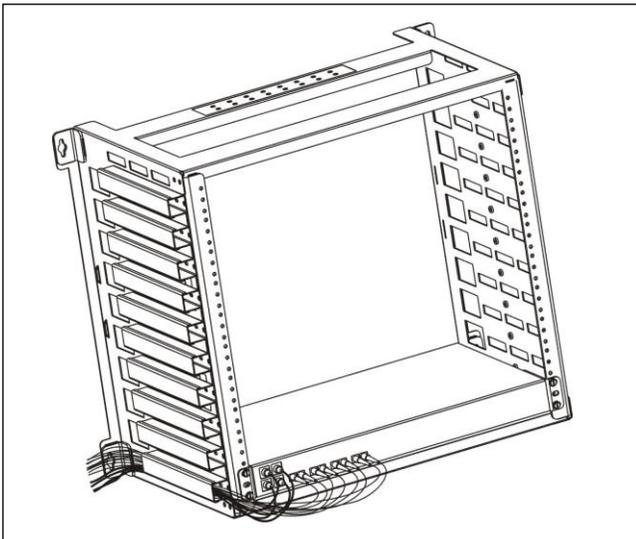

Figure 9. Cable guide application
- ② Groom cabling from the front of the chassis to the wall through the cable guide on the side of the WR-10U, as shown in Figure 9, and replace the sliding cover.